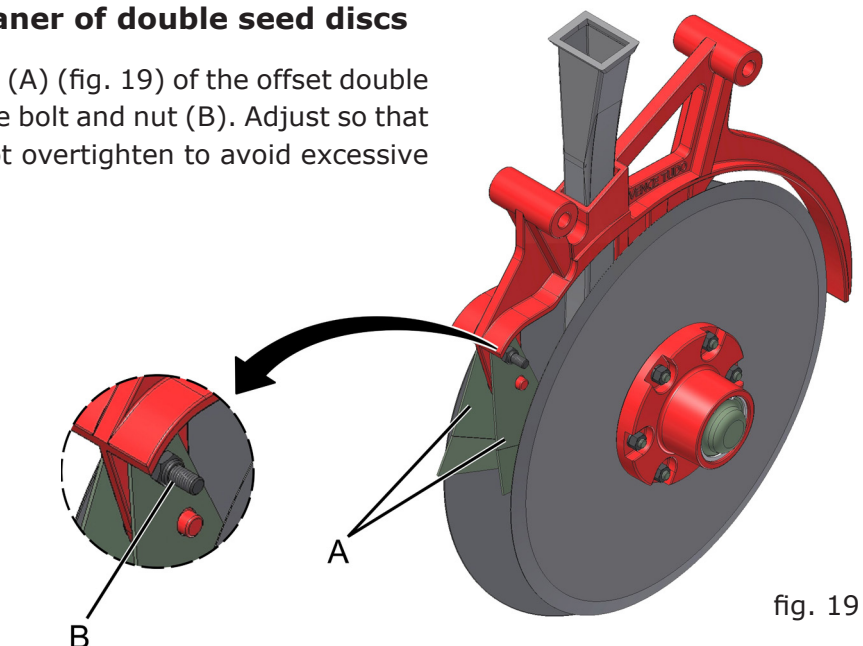

fig. 19
Periodically adjust the cleaners (A) (fig. 19) of the offset double discs. To adjust the cleaners, tighten the bolt and nut (B). Adjust so that you maintain cleaning efficiency. Do not overtighten to avoid excessive wear on the cleaners (A).